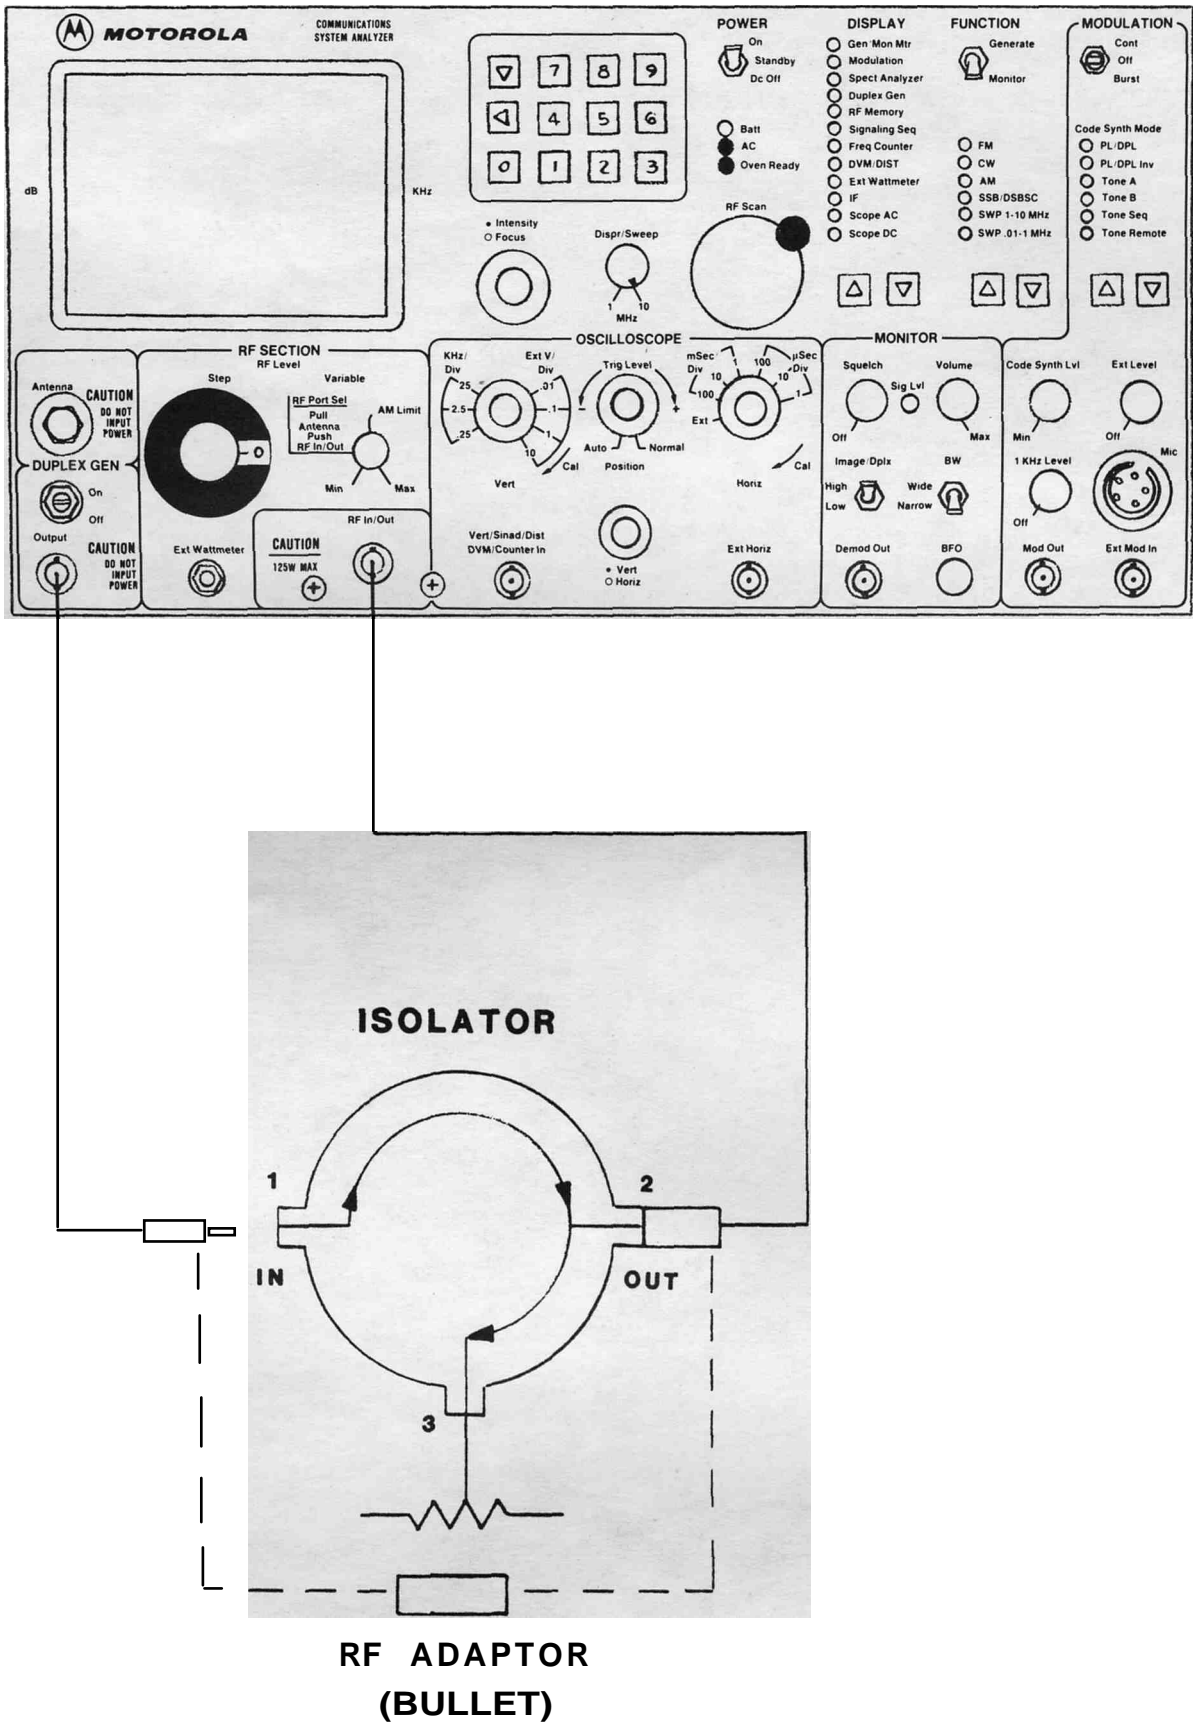

FIGURE 4-25. FERRITE ISOLATOR TEST SETUP
1. Use the Analyzer to test isolators for insertion loss and isolation. Connect the Analyzer to the isolator under test, as shown in figure 4-25.